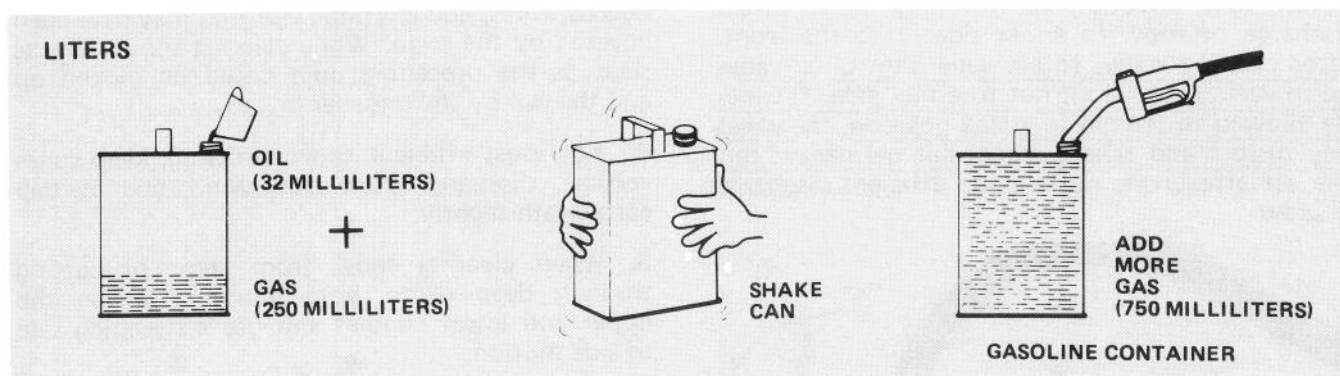

Figure 5C
1. Add 250 milliliters of unleaded or leaded **REGULAR** gasoline to a gasoline container (Fig. 5C).
2. Pour 32 milliliters of two cycle engine oil into the gasoline container (Fig. 5C). **DO NOT** use multi-viscosity oils.
3. Shake the gasoline container vigorously so oil mixes with gasoline (Fig. 5C). Remember to install cap on gasoline container before shaking.
4. Add an additional 750 milliliters of gasoline to the gasoline container (Fig. 5C).